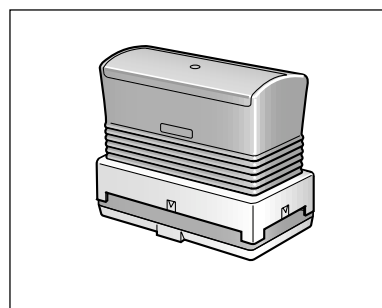

figure 11
- Leave the stamp in an upright position for at least 3 minutes to ensure ink spreads equally over the pad (see figure 11).